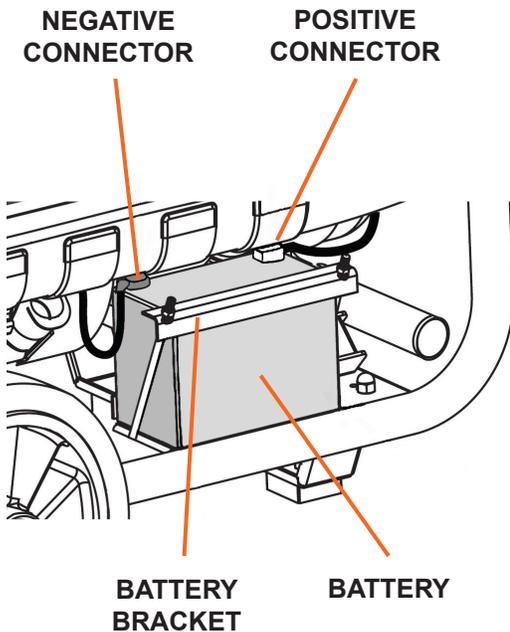

Figure 5
1. Place a fully charged, lead-acid 12 V, 9 Ah battery (not included) on the battery holder on the generator (see Figure 5).